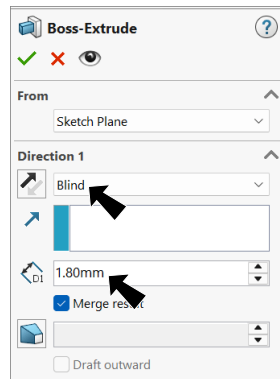

Fig. 34
Step 4. In the Boss-Extrude Property Manager set: under Direction 1, **Fig. 34** End Condition **Blind** **Depth**  **1.8** click OK .